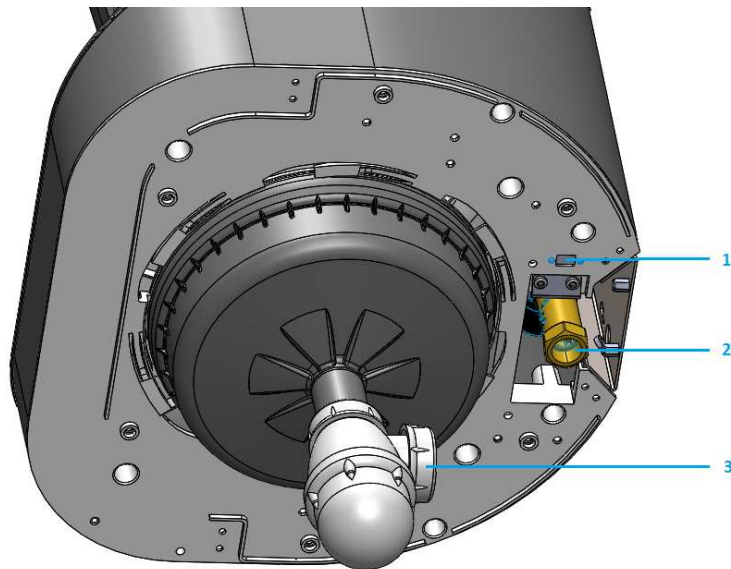

Fig.14 Power connection on the system
1. Connect the power cable to the Hand Washing Station (see Fig.14 Power connection on the system, Pos. 1).